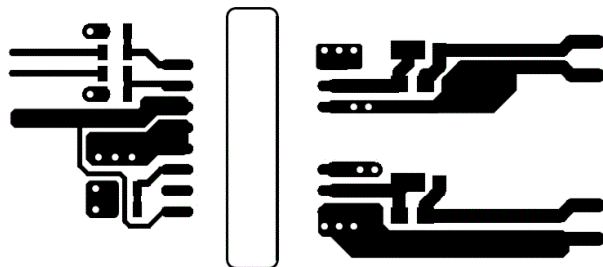
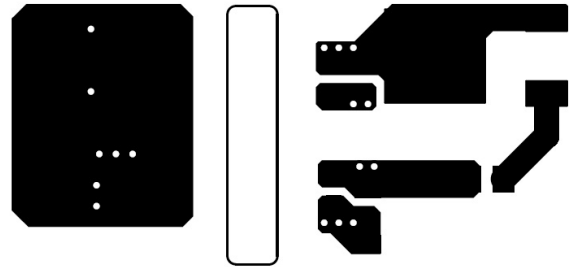

Figure 11-2. Top Layer Traces and Copper
Figure 11-3. Bottom Layer Traces and Copper (Flipped)
- Increasing the PCB copper connecting to VDDA, VDDb, VSSA and VSSB pins is recommended, with priority on maximizing the connection to VSSA and VSSB (see Figure 11-2 and Figure 11-3). However, high voltage PCB considerations mentioned above must be maintained.
Figure 11-2 and Figure 11-3 shows top and bottom layer traces and copper.